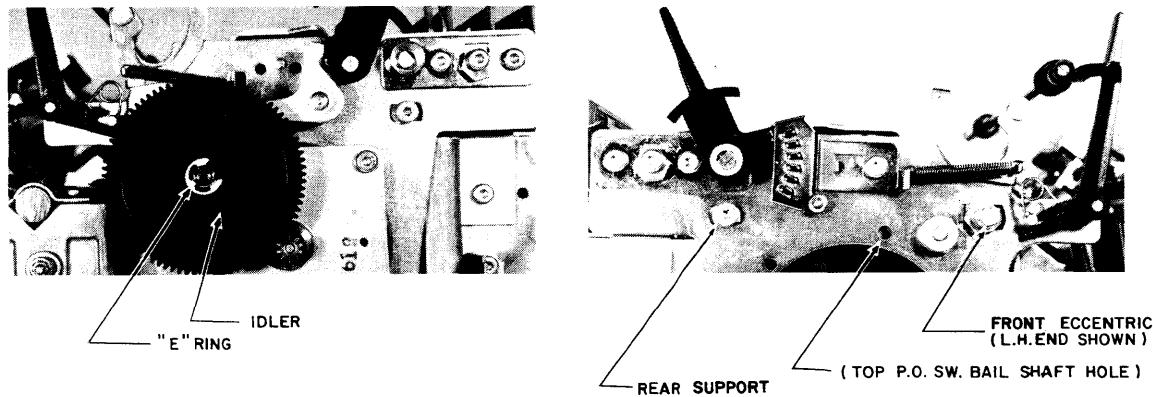

Figure 5-7 CARRIER SYSTEM REMOVAL - B
Refer to Figure 5-7.
5. Remove the left- and right-hand front Carrier Subassembly height adjustment eccentrics using a 1/4" wrench or nut driver. Remove the left- and right-hand Carrier Subassembly support screws and shoulder spacers, using a TORX T15 screwdriver. Store these items in a safe place. Refer to Figure 5-7.
- c) Referring to Figure 5-7, remove the E ring and idler gear.